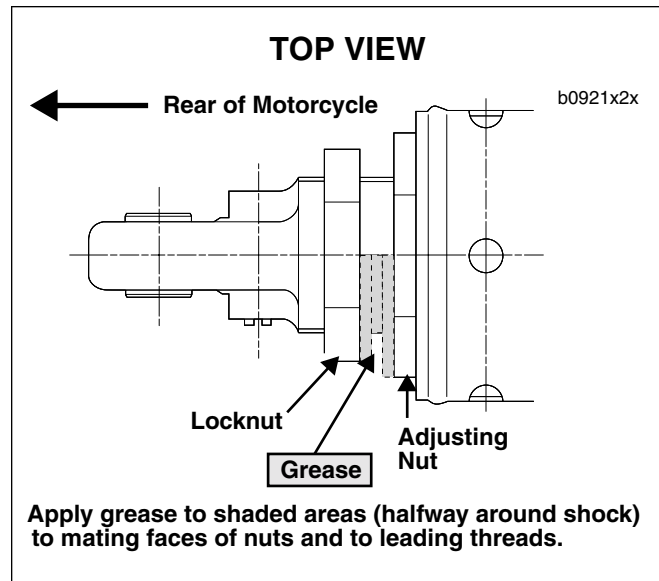

Figure 7. Locknut Tightening Procedure
3. See Figure 7. When finished, apply wheel bearing grease halfway around the shock (180 degrees) to the mating faces of the locknut and adjuster nut and the first few threads on the aluminum body leading to the adjuster nut.